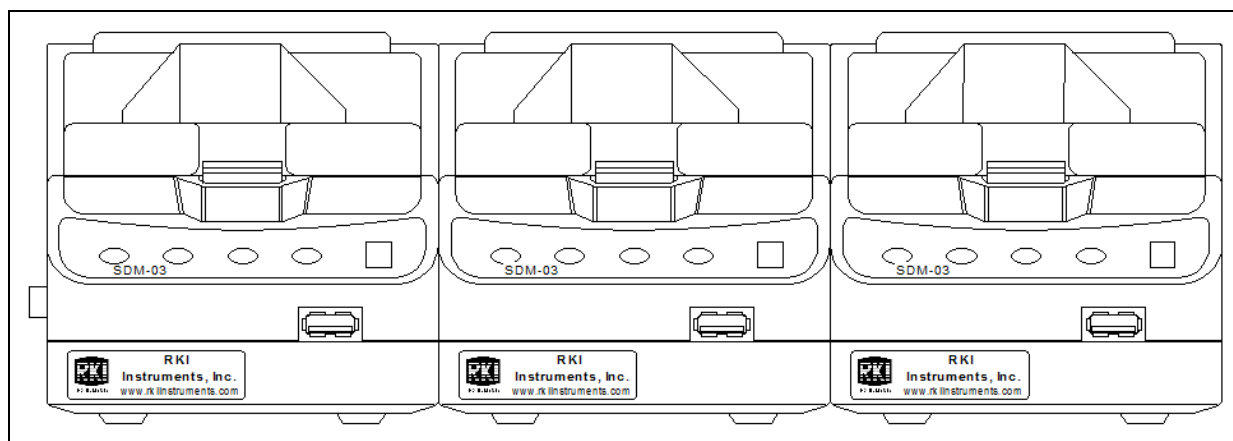

Figure 11: SDM-03 Arrangement
2. If you have more than one SDM-03, arrange them side by side as shown in Figure 11 below. Each docking station has three connection tabs on the left side near the bottom of the station and three connection recesses on the right side near the bottom of the station. The tabs from one docking station can be pushed into the recesses on another station to mechanically connect the docking stations.